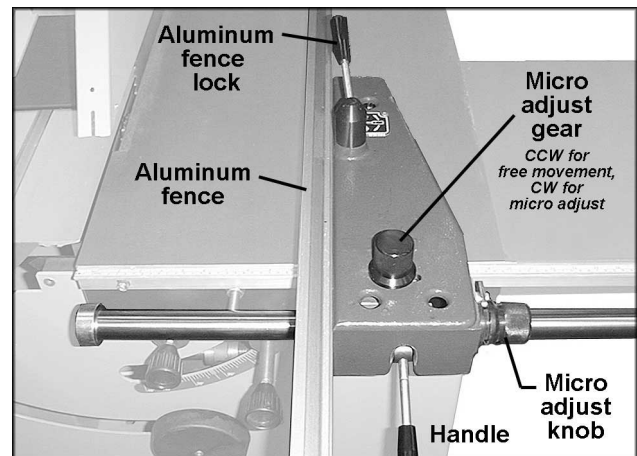

FIGURE 31
1. To move the rip fence, shown in Figure 31, turn the micro-adjust gear counterclockwise, and lift the handle. The fence should slide freely on the guide bar.